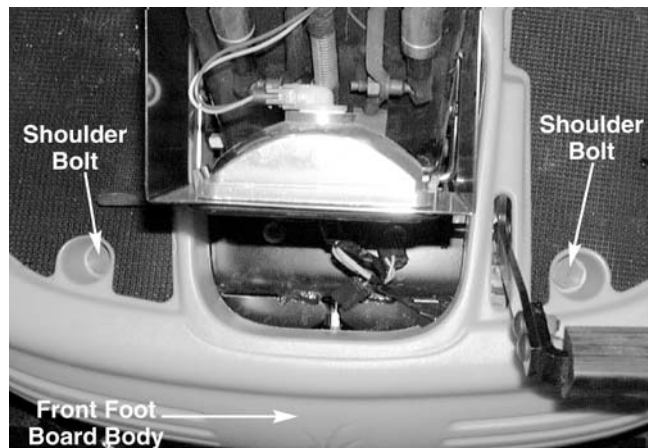

Figure 10-9.
17. Remove both front shoulder bolts securing the front of the foot board body to the front frame assembly using a 15/16 socket. See Figure 10-9.